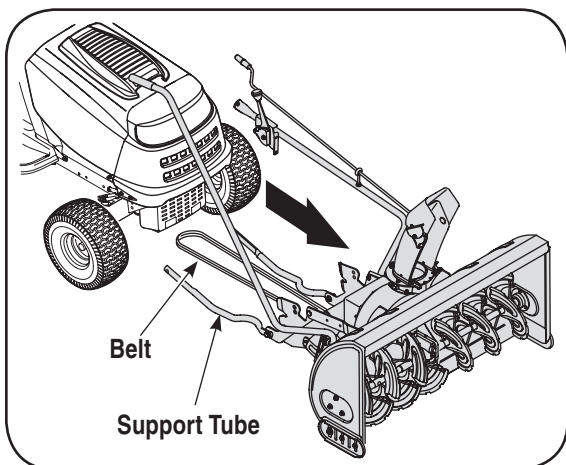

Figure 6-6
2. Position the auger housing assembly in front of the tractor as seen in Fig. 6-6. Lay the belt and support tubes on the installation surface.